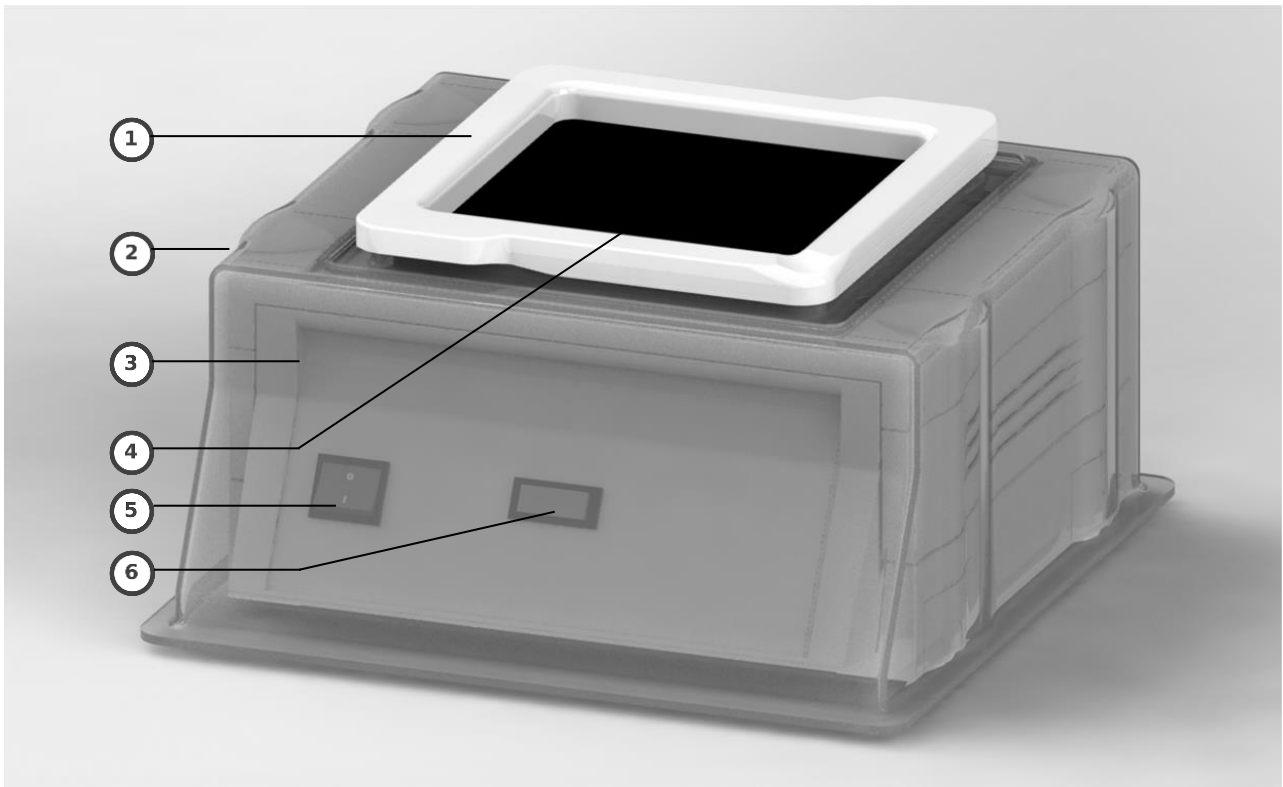

Fig 3-1: Overview
If the device is turned off and on again, the preheating time of maximum 20 min must be taken into account anew. Reaching the operating temperature is confirmed by the thermal indicator (6, Fig. 3-1).
- To turn off the device, use the power switch (5, Fig 3-1).
- The thermal indicator (6) turns dark as a result.
- ON/OFF switch indicator (5) turns dark as a result.